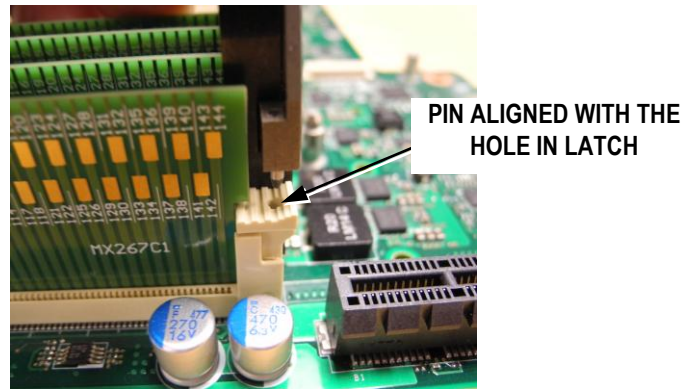

Figure 3
- The lips on the tool frame will stop on the socket housing. At this point, the pins of the extraction tool should align to the holes in the socket latches. See Figure 3.